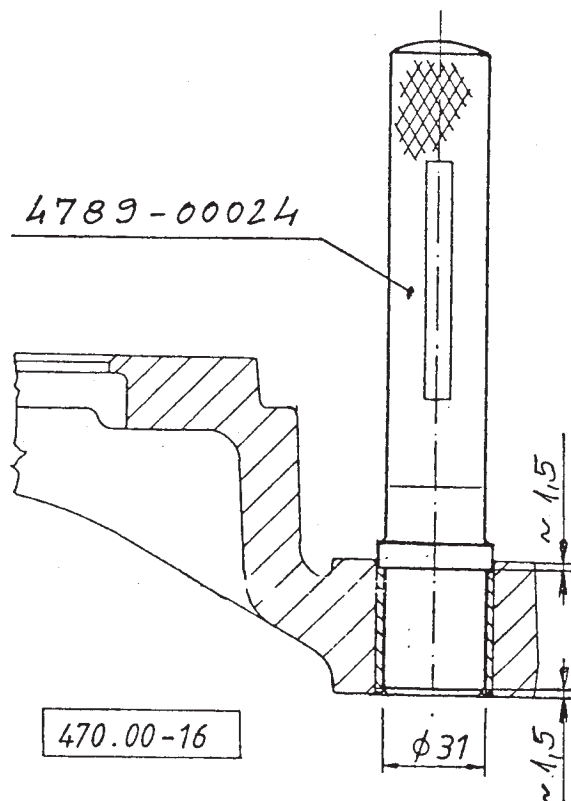

Fig. 1.: PRESSING THE BUSHINGS IN AND OUT
E.g.: If diameter of the trued up brake drum is **422 mm**, true up the brake shoe to **R210.6 - R210.3 mm** as shown in **Fig. 1**.
If the anchor pin bushing (16) are to be replaced, use the tool shown. **Fig. 1**.